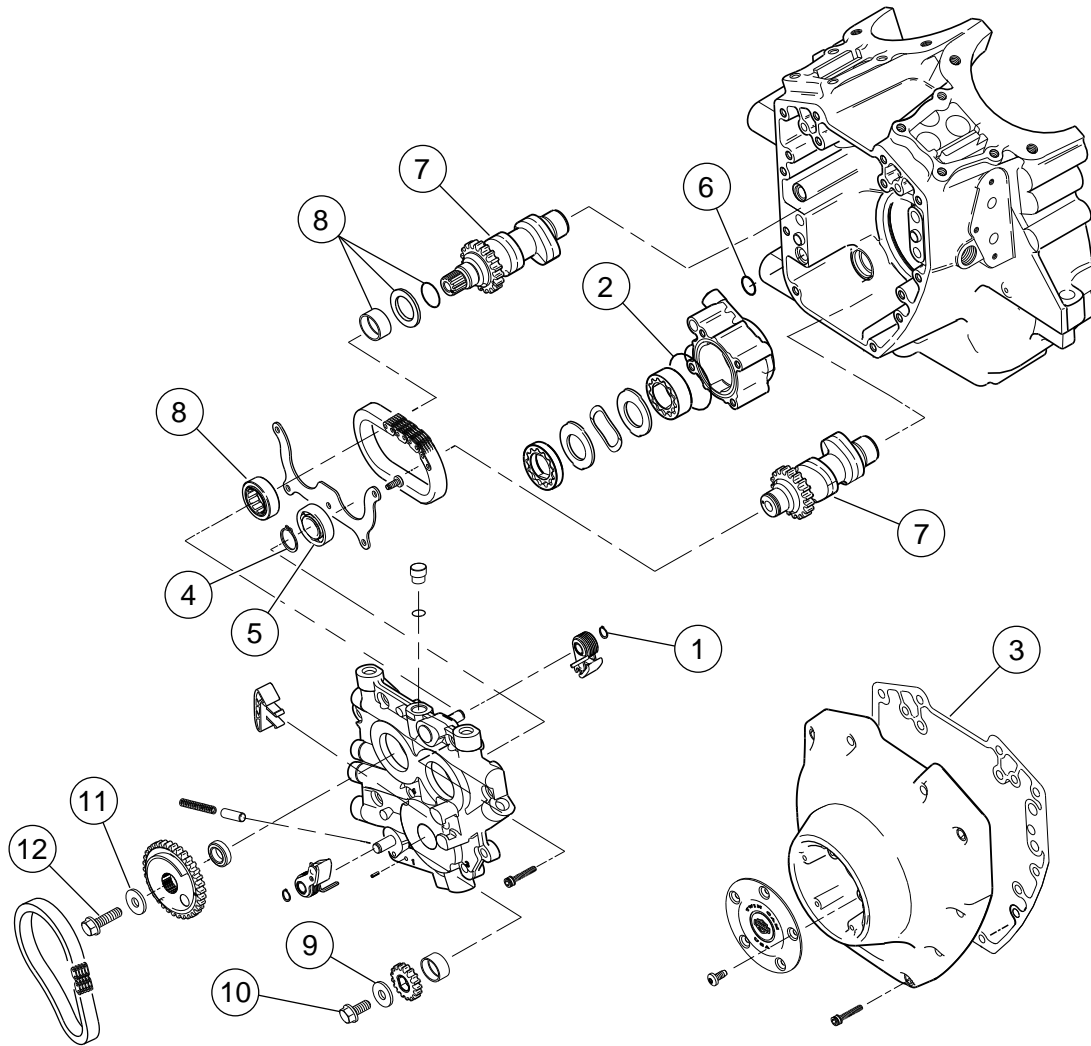

Figure 10. Service Parts: Screamin' Eagle Street Legal Big Bore Stage 2 Kit
Replace oil pump to cam plate O-ring (Figure 10, item 2) and cam plate to crankcase O-ring (Figure 10, item 6).
3. See Figure 10. Use cam flange screw (12), washer (11), crank flange screw (10), and washer (9) from kit.
Replace cam cover gasket (Figure 10, item 3).